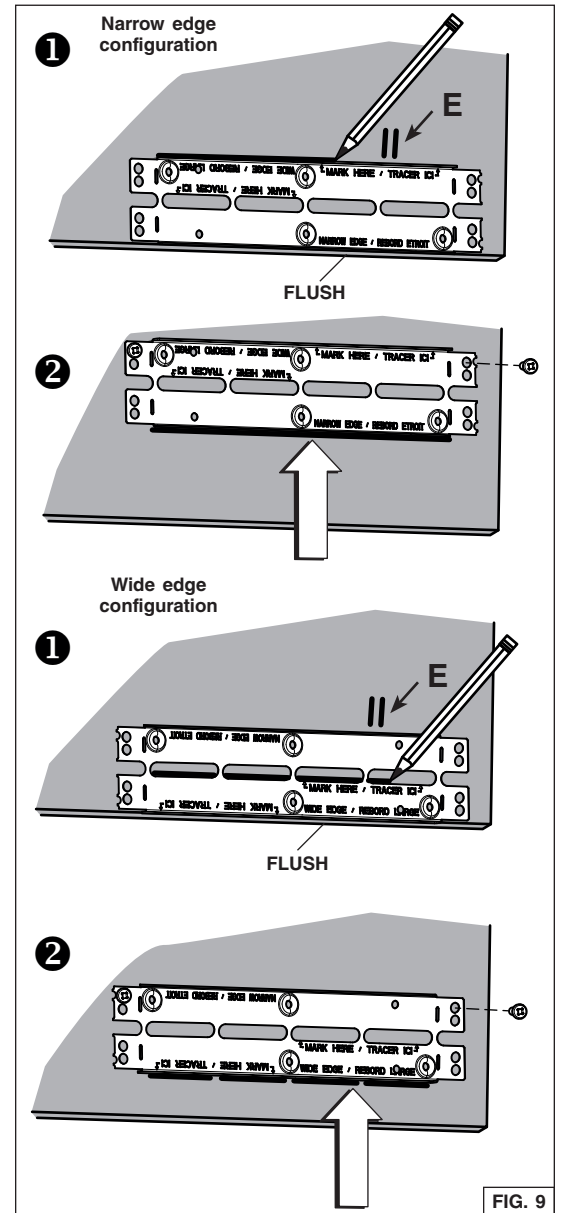

FIG. 9
4. Pay attention to the Ease of Install hooks location on the unit (distance given from unit front flange, FIG. 8). Measure and mark the position of the Ease of Install hooks (shown as E in FIG. 9 on next page) on both cabinet side walls.
5. Install the cabinet brackets as follow (FIG. 9):
- 1 Align the bracket flush with the bottom of the right cabinet side panel, with the hooks marked position (E) between the bottom embossed holes. For the narrow edge configuration, trace a line on the top of the bracket. For wide edge configuration, trace a line at the bottom of the central slots.